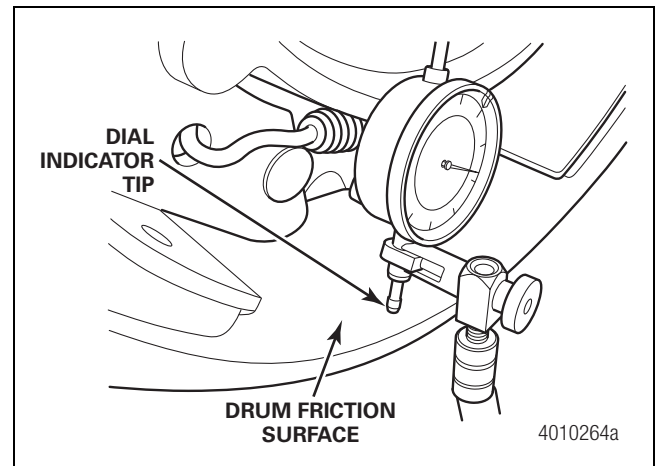
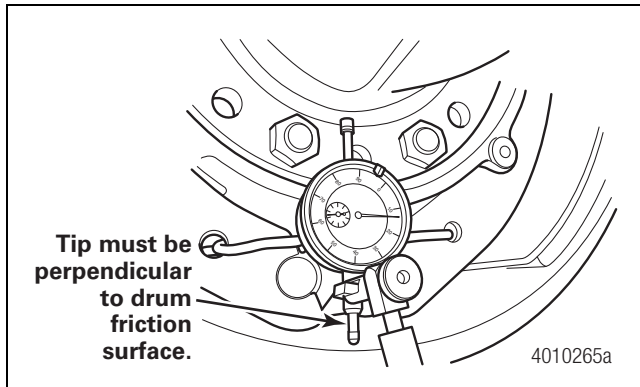

Figure 6.20
Figure 6.21
6. Align the dial indicator to contact the drum friction surface. Ensure the dial indicator tip is perpendicular to the drum friction surface to obtain an accurate reading. Figure 6.20 and Figure 6.21.